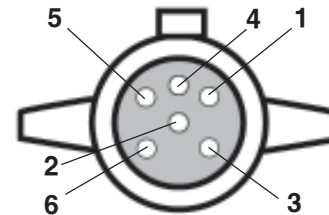

Figure 14
2. Wire the plug to match your vehicle, or follow Figure 14. Apply a silicone sealant to the wires where they attach to the plug. This will help prevent damage from moisture and corrosion.